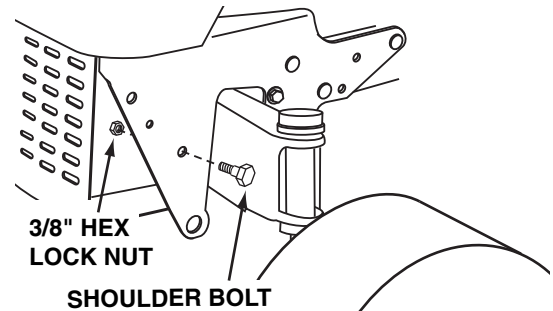

Figure 6
- Assemble a shoulder bolt and a 3/8" hex lock nut to the front bracket on each side of the tractor, unless a shoulder bolt is already present. See figure 6.